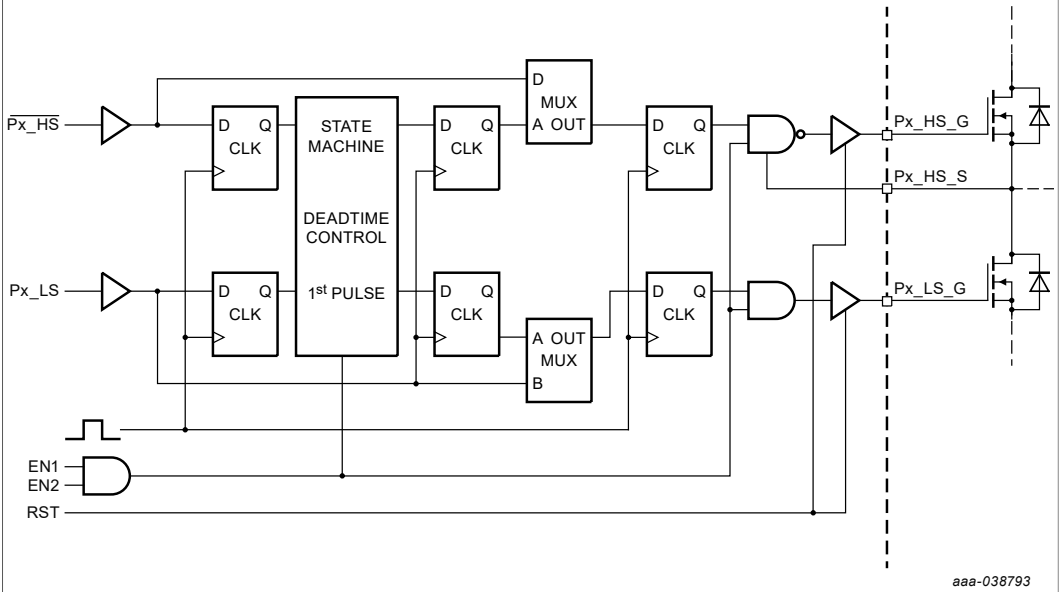
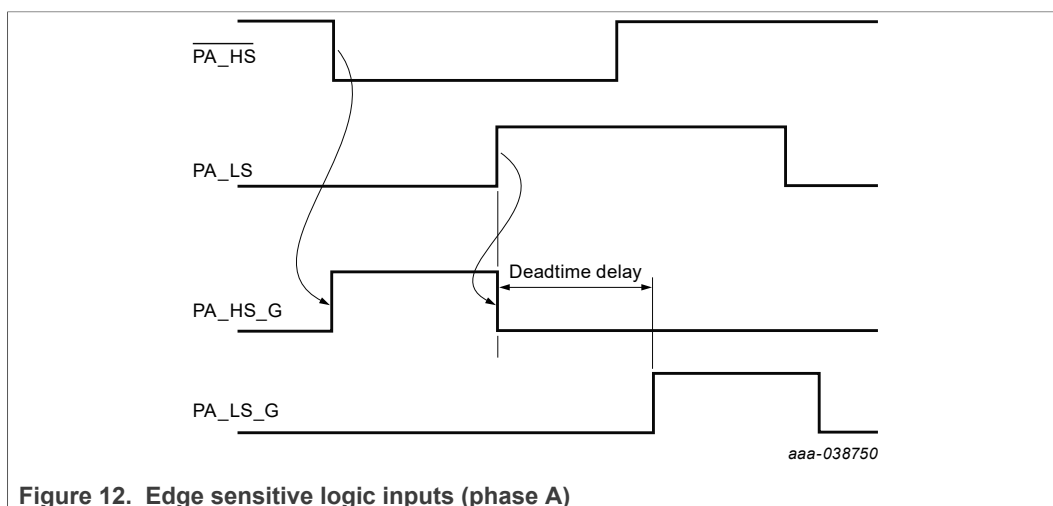

Figure 5. Deadtime control delays
Figure 12. Edge sensitive logic inputs (phase A)
- [6] These delays include all logic delays except deadtime. All internal logic is synchronous with the internal clock. The total delay includes one clock period for state machine decision block, an additional clock period for FULLON mux logic, input synchronization time and output driver propagation delay. Subtract one clock period for operation in FULLON mode which bypasses the state machine decision block. Synchronization time accounts for up to one clock period of variation. See Figure 5.
The  $\overline{Px\_HS}$  and  $Px\_LS$  logic inputs are edge sensitive. This means the leading edge on an input causes the complementary output to immediately turn off and the selected one to turn on after the deadtime delay as illustrated in Figure 12. The deadtime delay timer always starts at the time a FET is commanded off and prevents the complementary FET from being commanded on until after the deadtime has elapsed. Commands to turn on the complementary FET after the deadtime has elapsed are executed immediately without any further delay. See Figure 5 and Figure 12.